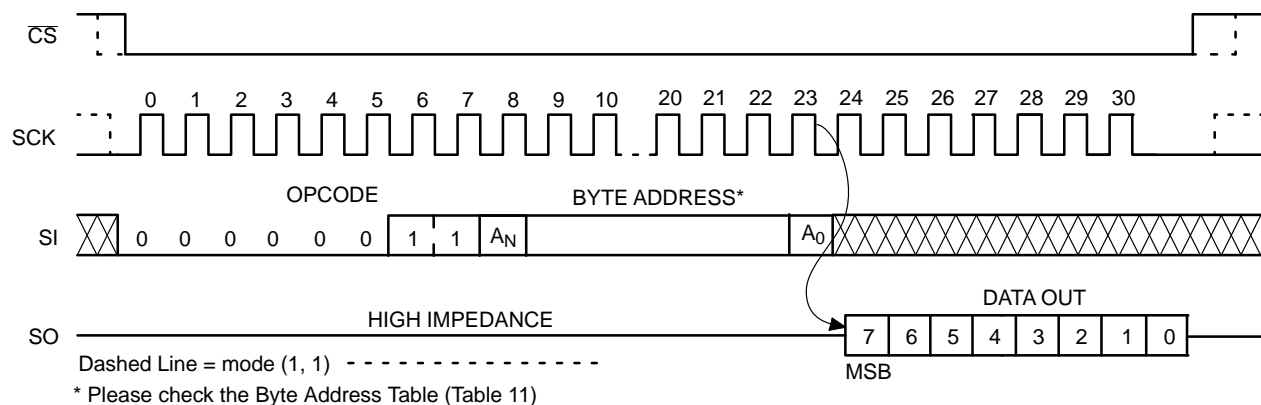

Figure 9. READ Timing
After receiving the last address bit, the NV25256 will respond by shifting out data on the SO pin (as shown in Figure 9). Sequentially stored data can be read out by simply continuing to run the clock. The internal address pointer is automatically incremented to the next higher address as data is shifted out. After reaching the highest memory address, the address counter “rolls over” to the lowest memory address, and the read cycle can be continued indefinitely. The read operation is terminated by taking  $\overline{\text{CS}}$  high.
Reading the additional 64-byte Identification Page (IP) is achieved using the same Read command sequence as used for Read from main memory array (Figure 9). **The IPL bit from the Status Register must be set (IPL = 1) before attempting to read from the IP.** The [A5:A0] are the address significant bits that point to the data byte shifted out on the